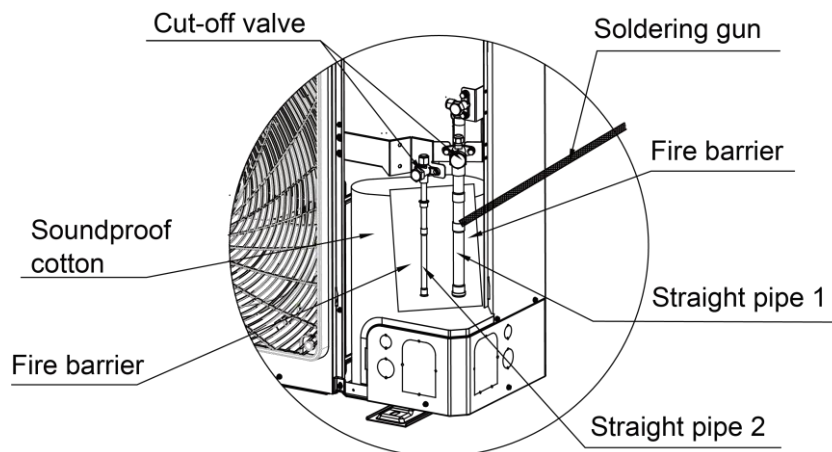
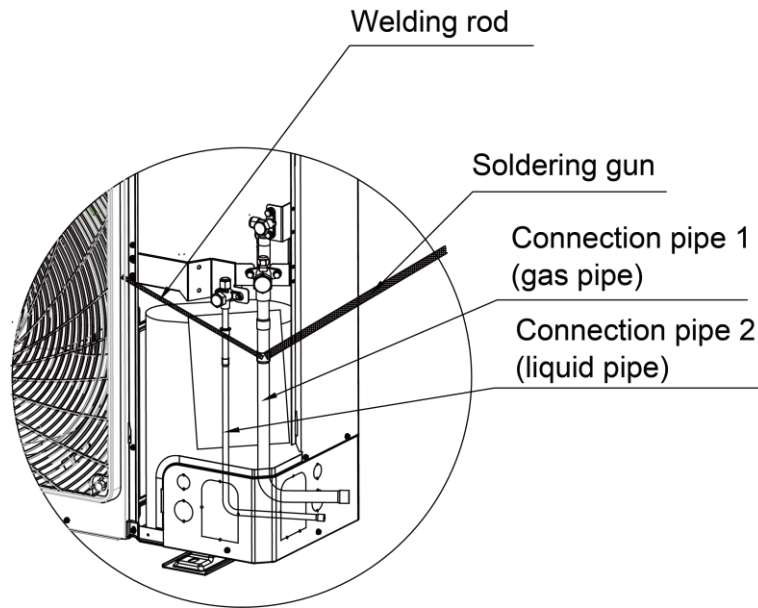

Fig. 15
Fig. 16
- (1) Pipe connection for GMV-H224WL/A-X,GMV-224WL/C-X:As shown in Fig.15 and Fig.16, open the outermost soundproof cotton and place a fire barrier between compressor and straight pipe. Use a soldering gun to unsolder straight pipe 1 and straight pipe 2. Install connection pipe 1 and connection pipe 2 to the corresponding position and then seal the apertures with welding rod. First weld the liquid side connection pipe and then weld the gas side connection pipe. During welding, it's necessary to use wet gauze to wrap up the two cut-off valves. Make sure the flame won't burn the soundproof cotton or other components.